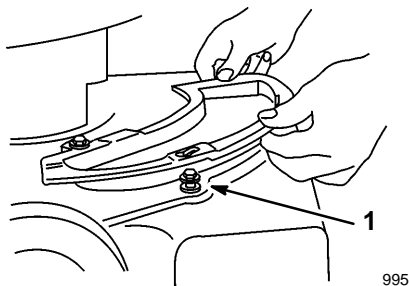

Figure 40
4. Slide the cover plate over the shoulder bolts (Fig. 40).